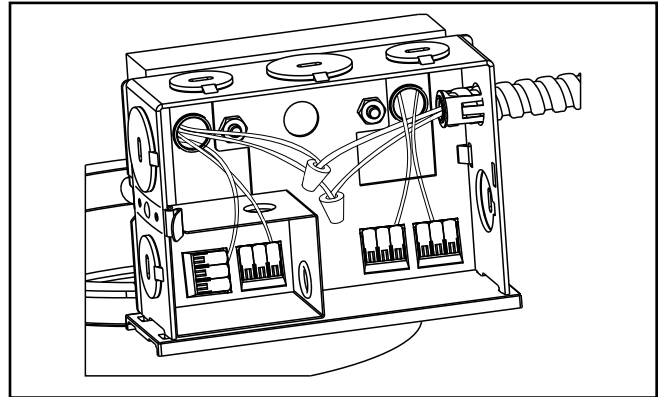

Figure 12
1. Provide electrical service according to the “National Electrical Code” or your local electrical code to the junction box (located on the plasterframe). Supply wire insulation must be rated for at least 90°C. The junction box is listed for (4) #12 AWG (two in, two out) 90°C conductors and feed thru branch wiring for type IC and Plug in drivers for 120/277V only. For all other cases (8) #12 AWG (four in, four out) 90°C conductors and feed thru branch wiring for 120/277V only.
2. Remove junction box cover (Figure 12.).